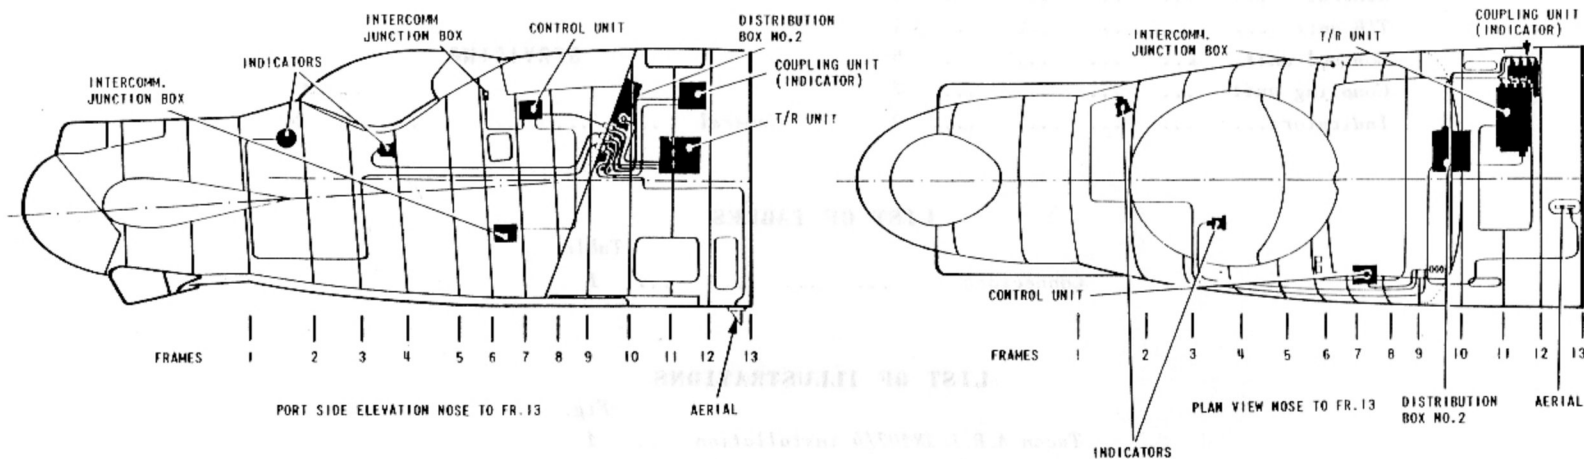

FIG. 1 TACAN A.R.I. 18107/4 INSTALLATION
11. When the installation is operating normally the bearing pointer remains steady and the distance counter indication decreases as the aircraft flies towards the beacon. When the T/R unit is not 'locked on' to the beacon to which it is tuned, the bearing pointer rotates continuously round the dial and the distance counters also rotate but are partially obscured by a flag. When the T/R locks on and the distance is greater than 99 nautical miles, a figure 1 on the flag appears at the left-hand side of the digital display so that the indicator is capable of showing distances up to the operational limit of the equipment, i.e. 195 nautical miles. When the distance has decreased to 99 nautical miles, the flag clears, leaving a two-digit display.